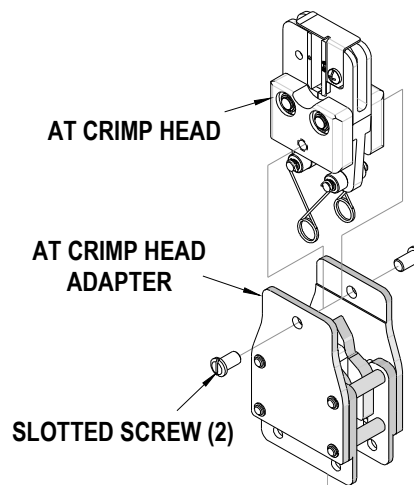

Figure 2-24
1. Install the RHT tooling kit with locator, into the AT Power Crimp Head. See Figures 2-24.